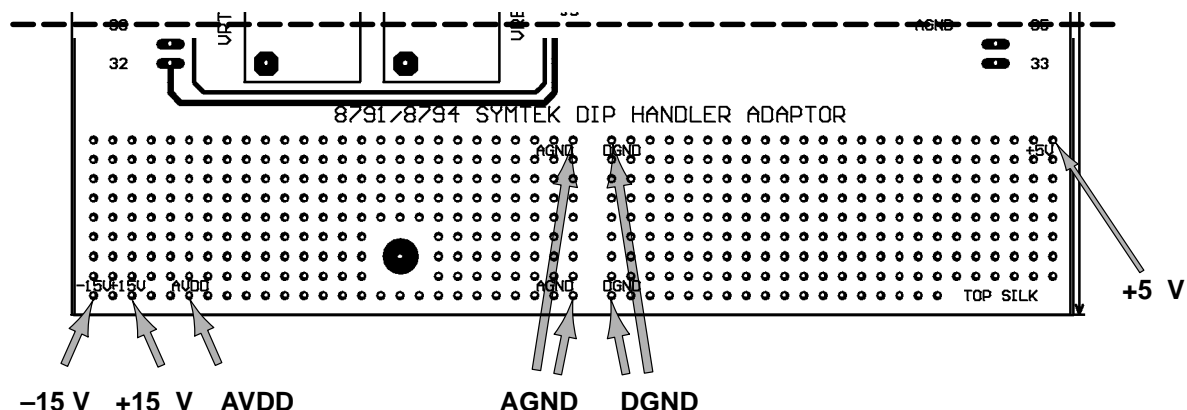

Figure 3. Analog and Digital Work Area with Power and Ground Pads
5. **DIGITAL & ANALOG WORK AREAS** - 100 mil spaced holes allow configuration of additional circuitry powered from either analog or digital planes. The work area power and ground pads are shown in Figure 3. for both the analog and digital planes.